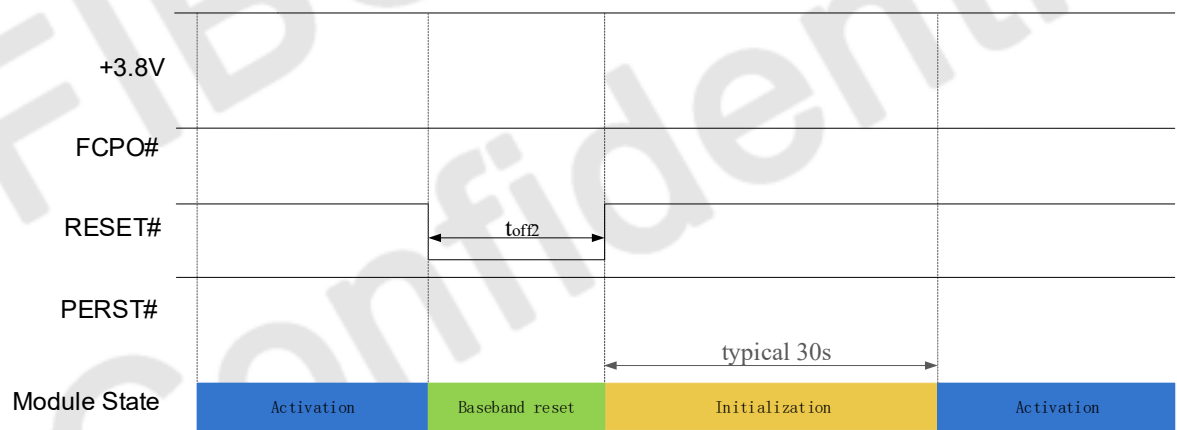

Figure 3-8 Reset timing 1st
- Reset timing 1st in Figure 3-8, PMU of module internal always on in reset sequence, recommend using in FW upgrade and module recovery;
Modem FW upgrade / Modem recovery	Refer to section 3.3.3 Figure 3-8 Reset timing 1 st